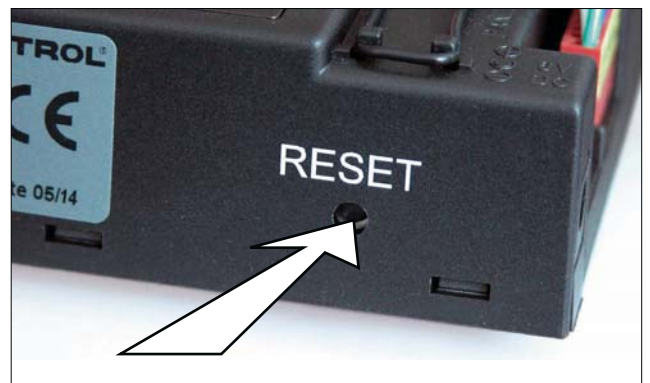

Figure 21: Receiver Reset Button
The handsets, receivers, wall switches, switch panels and touchpads are not interchangeable with previous electronics (see figure 21).
- Press and hold the receiver's reset button (see figure 21) until you hear two (2) beeps. The first beep is short and the second beep is long. After the second beep, release the reset button.